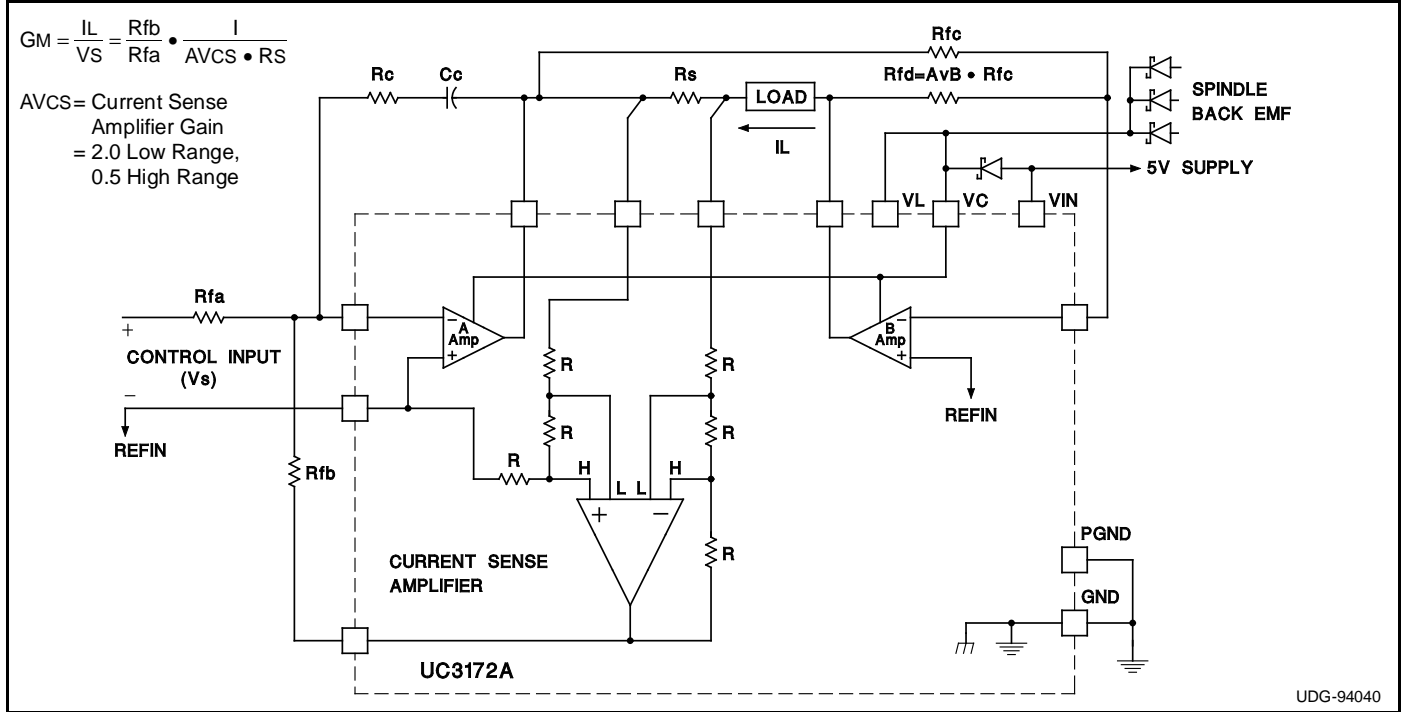

Figure 1. Typical Application
The following is a simple design flow that can be used to configure the UC3172A or UC3173A Full Bridge Power Amplifiers as shown in Figure 1.
- E. The normal configuration for compensation of the power amplifier is shown in Figure 1. A simple RC network,  $R_C C_C$ , around the A amplifier is all that is required.
In the closed loop transconductance amplifier, the A amplifier operates at the highest noise gain. Noise gain is a measure of the feedback ratio at which the amplifier is operating. For the configuration of the A amplifier in Figure 1, the noise gain is given by the impedance ratio of the RC-CC series network, to the parallel combination of  $R_{FA}$  and  $R_{FB}$ . For the A amplifier to operate at its expected closed loop gain, the noise gain at any frequency must not exceed its Gain Bandwidth Product (GBW) divided by that frequency. Applying this to the expression above will yield a result for the maximum 3dB bandwidth that can be achieved for a given configuration.